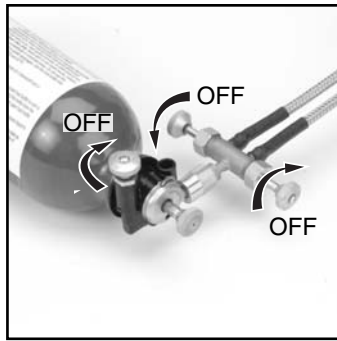

FIG. 33
- Turn all **FUEL VALVES** fully "OFF". (Fig. 33)